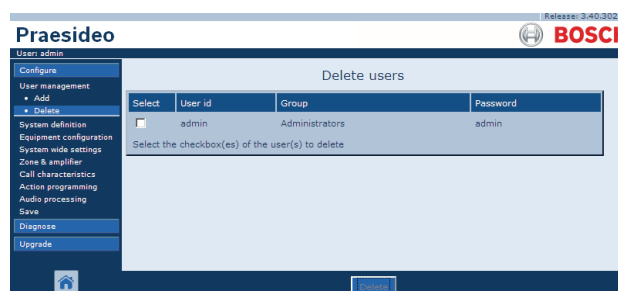

figure 42.7: Delete user, step 3
- 3 Click the *Delete* button to delete the account. A screen similar to the one in figure 42.7 appears in the main frame of the web interface. This screen does not contain the deleted account anymore.